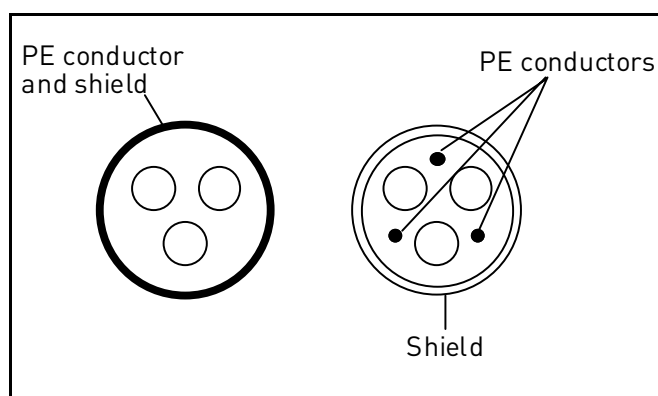

Figure 15.
- 2 = Symmetrical power cable equipped with concentric protection wire and intended for the specific mains voltage. (MCMK or similar recommended). See Figure 15.
- 3 = Symmetrical power cable equipped with compact low-impedance shield and intended for the specific mains voltage. [MCCMK, EMCMK or similar recommended; Recommended cable transfer impedance (1Mhz...30MHz) max. 100mohm/m]. See Figure 15.